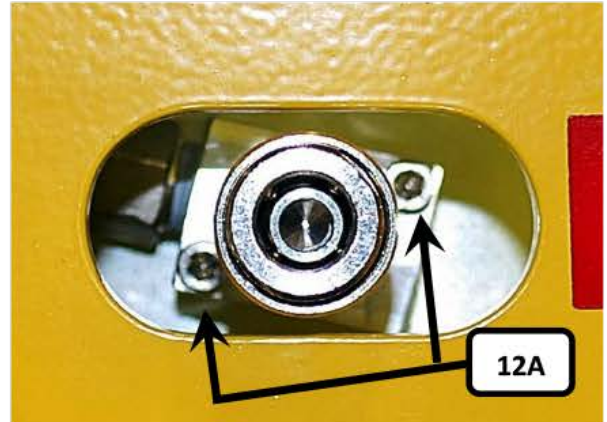

FIGURE 12
16) To test the individual quick connect assemblies they will need to be removed from the pad frame. The quick connects are attached to a manifold that is secured to the inside wall of the pad frame tubes by two socket head cap screws (12A) located in opposite corners of the manifold. A 7/64" hex wrench is required to remove these screws. See FIGURE 12.